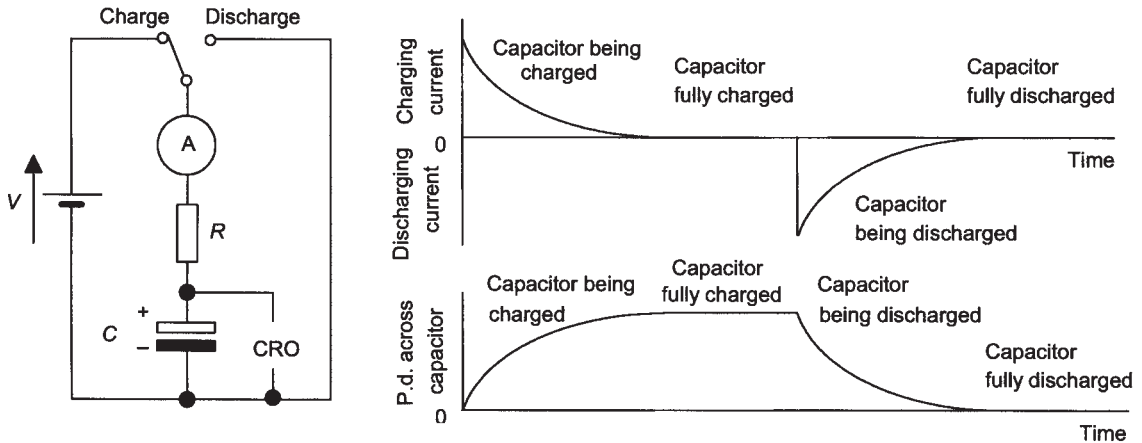

Figure 14.10 Capacitor charge and discharge
Consider the action of a capacitor, e.g. a 20 μ F electrolytic capacitor (note that such a capacitor has a polarity indicating that it can only be connected one way in the circuit if it is not to be damaged), in a circuit in series with a resistor, e.g. a 1 M Ω resistor (Figure 14.10). A cathode ray oscilloscope is connected across the capacitor in order to indicate the potential difference across that component and a centre-zero microammeter used to monitor the current. These readings are observed for the charge and the discharge of the capacitor.
- 1 Use the circuit shown in Figure 14.10 to investigate the action of a capacitor in a d.c. circuit. You might initially try a 20 μF electrolytic capacitor in series with a 1 $\text{M}\Omega$ resistor and then see the effect of doubling the resistance to 2 $\text{M}\Omega$. Note that with the oscilloscope, the a.c./d.c. switch should be on the d.c. setting.